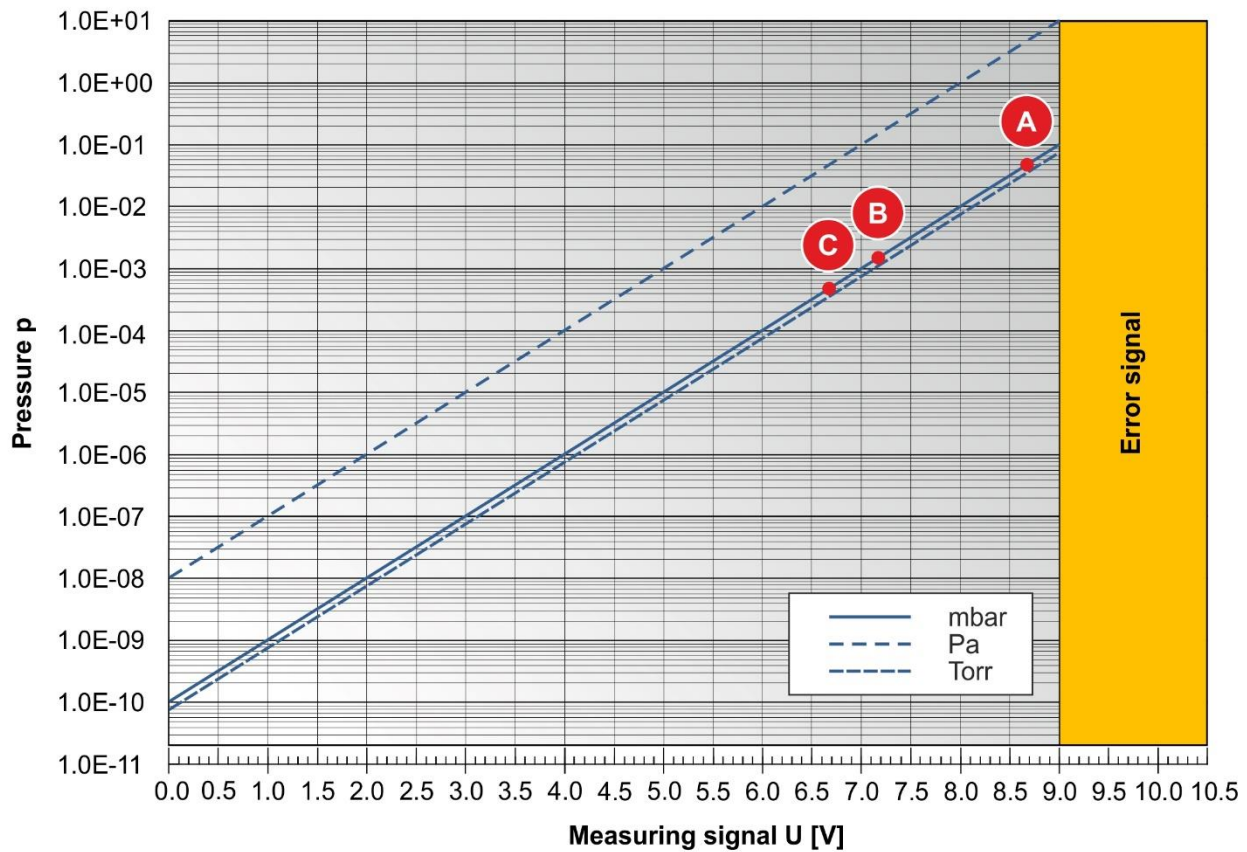
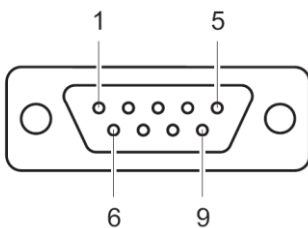

Figure 1 – Analog Output
Figure 4 – Connector for Input / Output (D-SUB, 9 pin, male)
The input / output connector (🔌📖 Figure 4, page 14) combines the voltage supply input, the analog output and the digital in- and outputs for the control and monitoring of the instrument.
- Connect pin 2 of the input / output connector (🔌📖 Figure 4, page 14) with the ground (GND) of the voltage supply.
- Connect pin 4 of the input / output connector (🔌📖 Figure 4, page 14) with 24 VDC (max. 12 W) of the voltage supply.
- Apply LOW level on pin 1 of the input / output connector (  Figure 4, page 14).
- Disconnect pin 1 of the input / output connector (  Figure 4, page 14) from LOW level.
The analog output (  Figure 1, page 11) is provided by the input / output connector (  Figure 4, page 14).
- Apply LOW level on pin 8 of the input / output connector (  Figure 4, page 14).
- Disconnect pin 8 of the input / output connector (  Figure 4, page 14) from LOW level.
- Apply LOW level on pin 6 of the input / output connector (🔌📖 Figure 4, page 14).